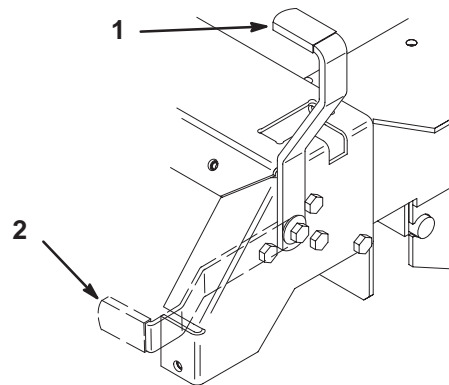

Figure 12
1. Move the motion control levers (Fig. 12) out to the neutral lock position.
2. Pull back and up on the parking brake lever to set the parking brake (Fig. 12). The parking brake lever should stay firmly in the Engaged position.
Push forward and down on the parking brake lever to release the parking brake (Fig. 12). The parking brake is disengaged.